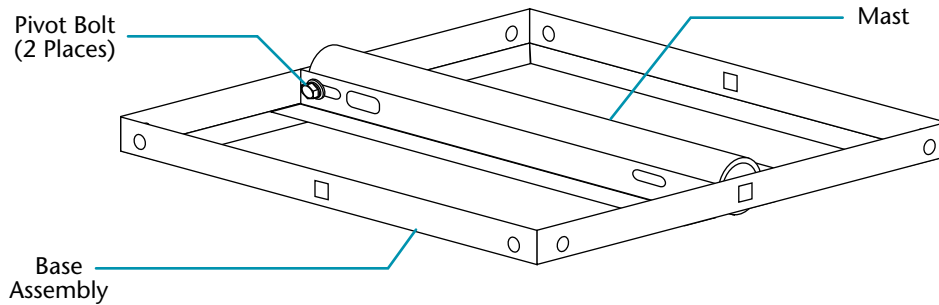

Figure 4-6. Loosening the pivot bolts
3. Loosen the pivot bolts (see figure 4-6).